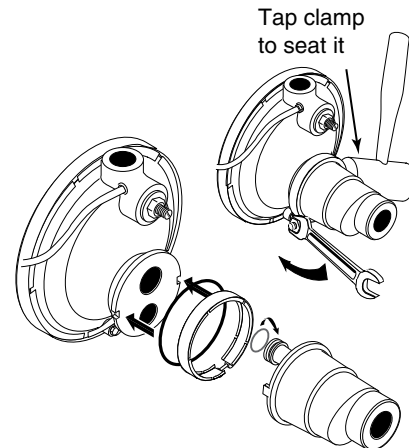

Figure 3 – Mount Ejector – Shallow Well
2. Install Berkeley ejector kit Model BK4875 (kits are sold separately). Follow the instructions provided with the kit. Be sure to align the venturi with the top hole on the front of the pump (See Figure 3).
1. Install Berkeley ejector kit BK4875 (kits are sold separately). Follow the instructions provided with the kit. Align the venturi with the top hole on the front of the pump (See Figure 3).